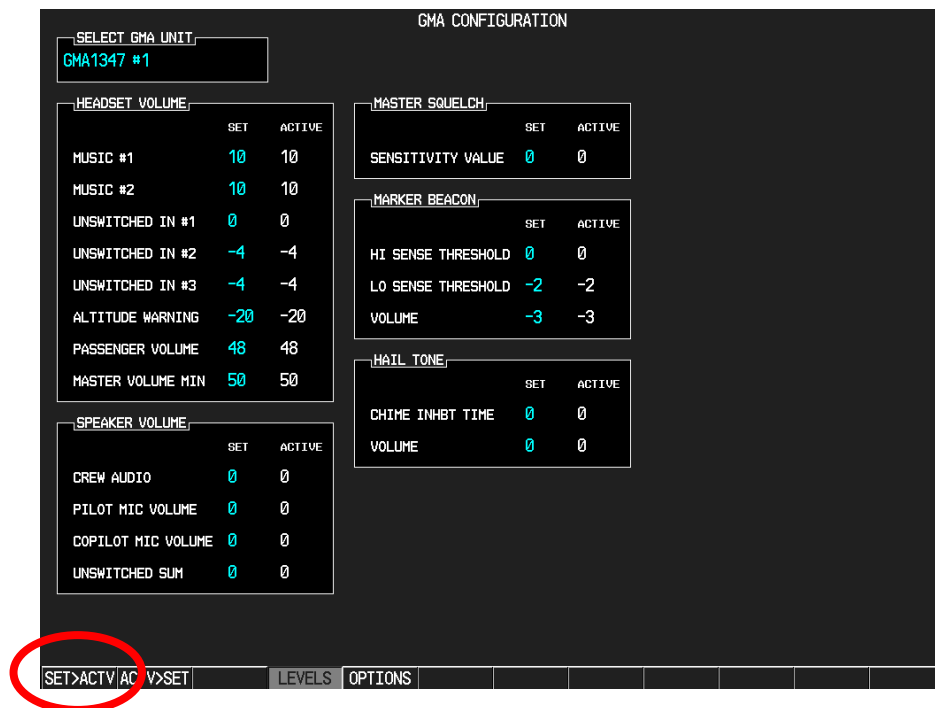

Figure 7-4. SET>ACTV Softkey on GMA Config Page
6. Press the SET>ACTV softkey in the lower left corner of the screen (see Figure 7-4).